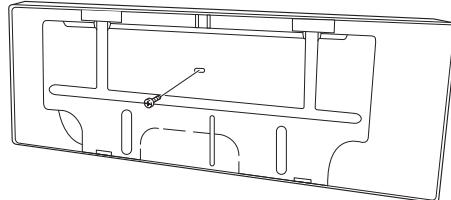

Fig. 6
- (1) Remove and discard the set screw on the rear panel except SAP-KRV96EHDS, SAP-KRV126EHDS, SAP-KMRV76EH, SAP-KMRV96EH and SAP-KMRV126EH. (Fig. 6)